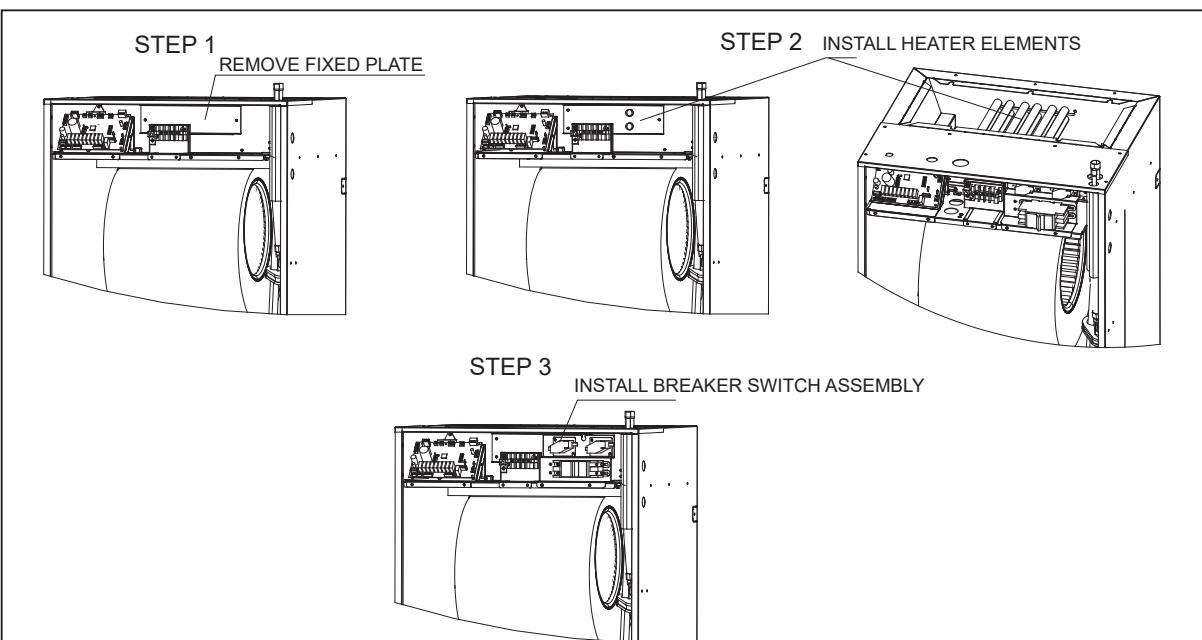

Figure 3.5 HEATER ELEMENTS INSTALLATION
1. Remove the screws and the front panel, and disconnect the plug of leak detection sensor wire from the circuit board (Figure 3.5, Step 1).
2. Remove the screws and pull out the leak detection sensor with the wire (Figure 3.5, Step 2).